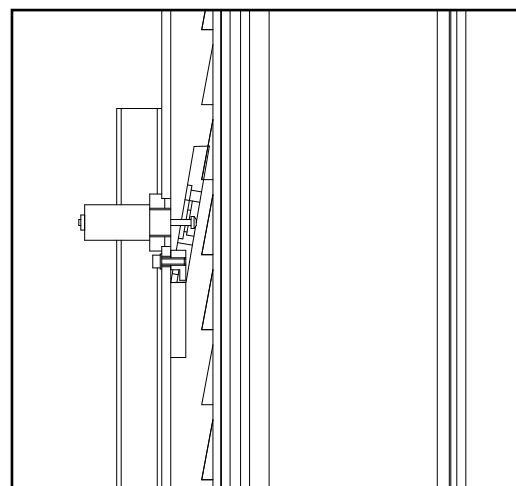

Fig. 15
- ◆ If the hydraulic cylinder breaks, the safety wedges will trip (**Fig. 15**), located inside the posts. The wedges are pushed by the spring and immediately stop the carriage preventing their descent.